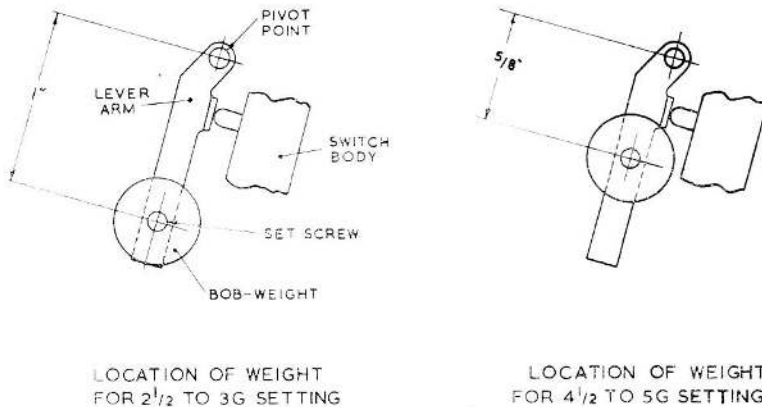

Fig. 3. Inertia switch 'G' settings
5. The test switch is a single pole toggle switch and is connected in parallel with the inertia switch. The inertia switch consists of a bob-weight suspended on a lever arm actuating on a microswitch. The position of the bob-weight on the lever arm is adjustable (fig. 3) and may be varied to operate the microswitch at 'G' values of from $2\frac{1}{2}$ to 5 'G'.
loose, it may be reset to the dimensions given in fig. 3 using a pair of dividers setting one point at the centre of the pivot point and the other at the centre of the bob-weight screw. Ensure that the lever arm moves freely on its pivot.